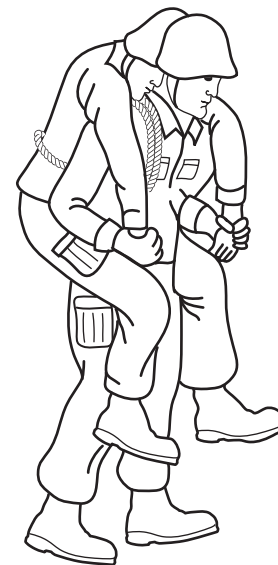

Figure 9-3. Rope Coil Carry.
- Holding the casualty's wrists, the bearer carefully stands, using his/her legs to lift up and keeping his/her back as straight as possible. See figure 9-3.